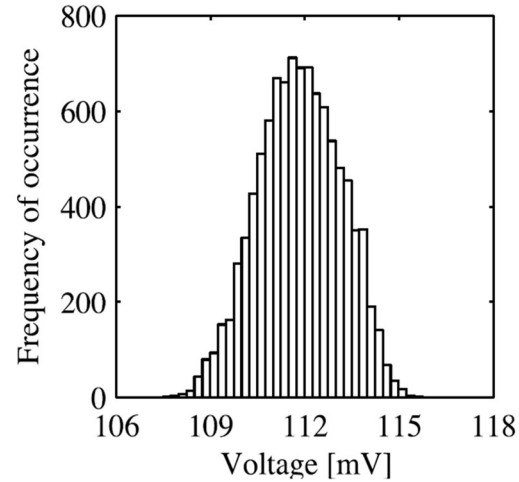

Figure 4.2. Histogram of the power consumption at 362 ns of Figure 4.1.
- b. (10 pts.) Use your own words to describe the experiment being carried out in Figure 4.2. Make sure that the following items appear in your answer: (i) $P_{el, noise}$, (ii) histogram and (iii) 10,000.
Fig. 4.2 shows a histogram of 10,000 power trace measurements at 362 ns. Since exactly the same program (AES) with exactly the same data is executed each time, the information in the histogram is used to calculate $P_{el, noise}$. In other words, the differences between the power traces are not due to the operation being performed nor to the data being processed. Therefore, the differences are accounted for by attributing them to noise sources such as thermal noise.
If the number of power traces used in Fig. 4.2 were 100,000 instead of 10,000, then Fig. 4.2 should look nearly identical except that the y-axis would range from 0 to 8,000 (instead of ranging from 0 to 800). The answer to 2.b would be the same, i.e., the histogram can be used to accurately estimate $P_{el, noise}$.
If the number of power traces used in Fig. 4.2 were 1,000 instead of 10,000, then it is not clear how Fig. 4.2 would appear. If 1,000 measurements are enough to properly sample the noise, then the version of Fig. 4.2 based on 1,000 power traces would look nearly identical and the answer to question 2.b would be the same. However, if 1,000 traces are not enough, then there may be significant variations and differences due to not enough samples being taken, and thus the answer to 2.b would not be the same.